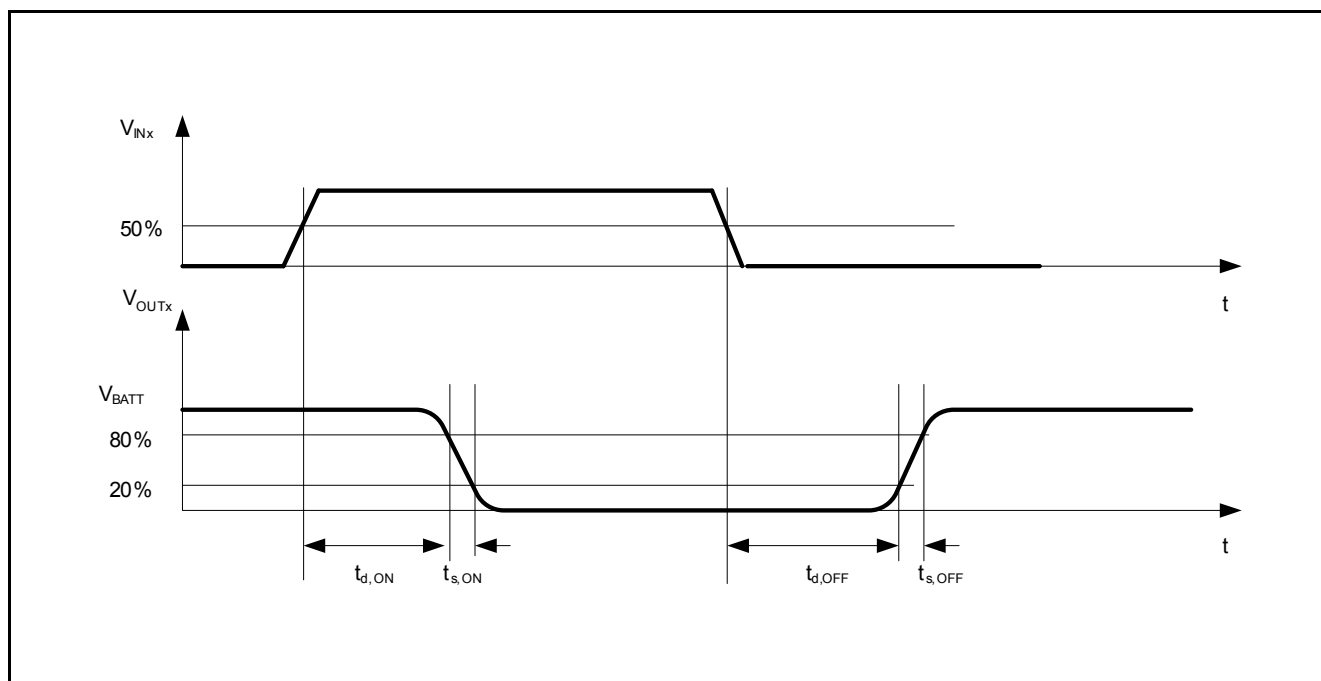
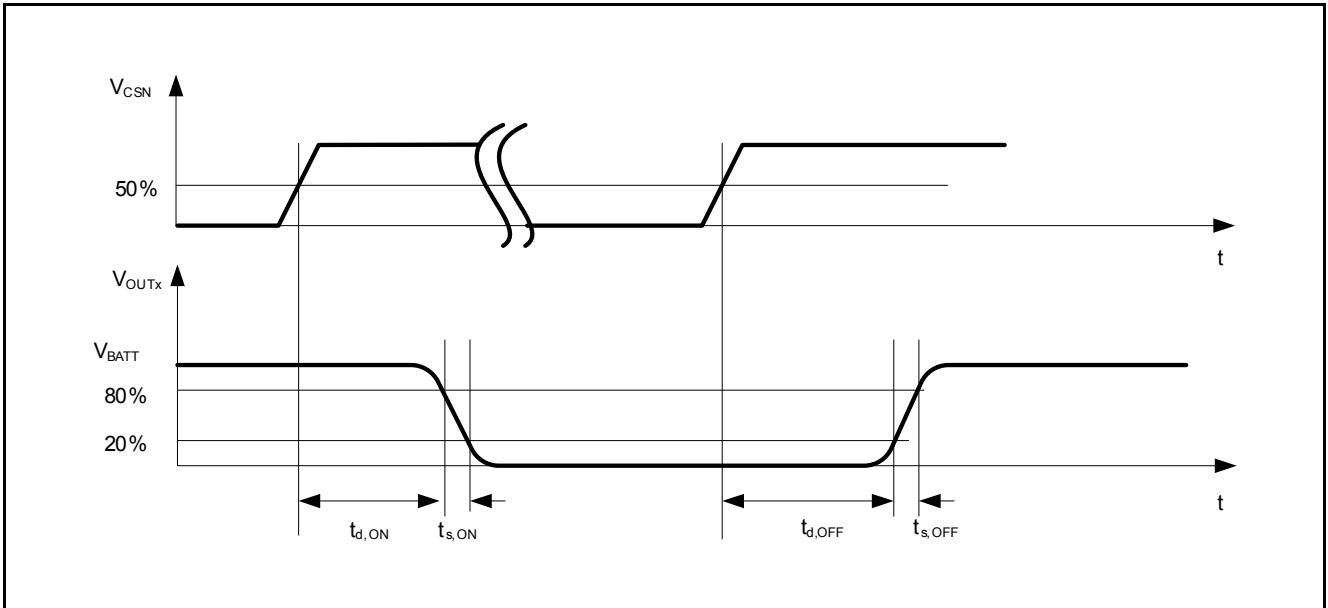

Figure 7 Timing Low Side Switches Channel 1 and 3
Figure 8 Timing Low Side Switches Channel 2,4 and 5
1) definition of timing see Figure 7 or Figure 8